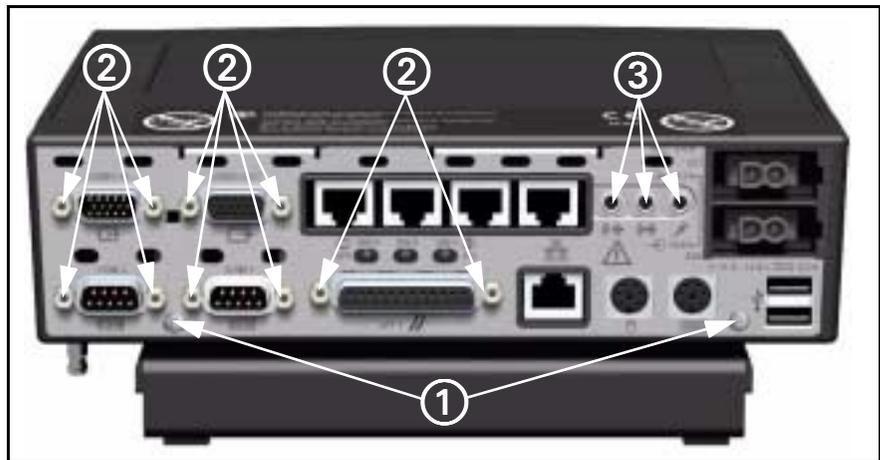

Figure 5-4 MDS rear view
9. Remove and save 2 Phillips-head screws (① in Figure 5-4), ten posts (② in Figure 5-4) and three nuts on auxiliary jacks (③ in Figure 5-4) that secure rear panel to MDS.